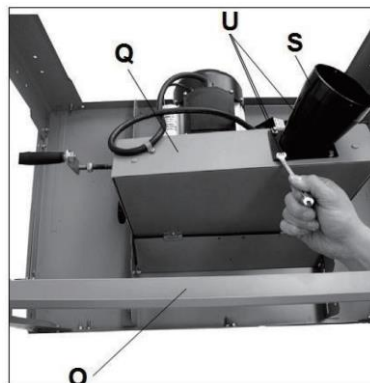

Fig. 6
Fasten the extractor connection to the bottom of the chip box (Q) with 4 screw (U). Fig 6.